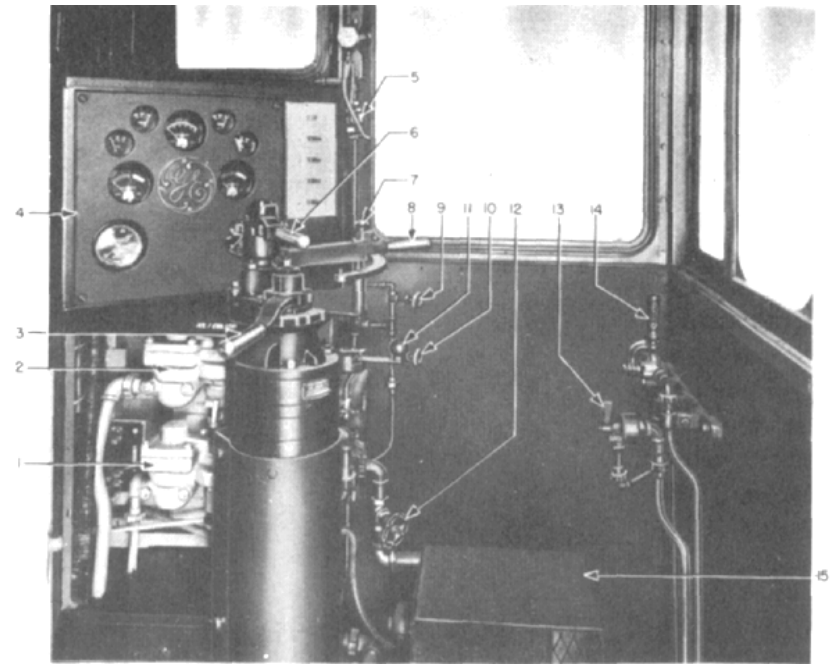

Fig. 5A. Engineman's control station and gage panel
5. *Never apply sand while wheels are slipping.* (See Fig. 5A.)
5. *Close control switch.* (See Fig. 5A.)
7. *Place reverse handle in Off position.* (See Fig. 5A.)
8. *Place throttle in Idling position.* (See Fig. 5A.)
9. *Close No. 1 Engine-start switch.* (See Fig. 5A.)